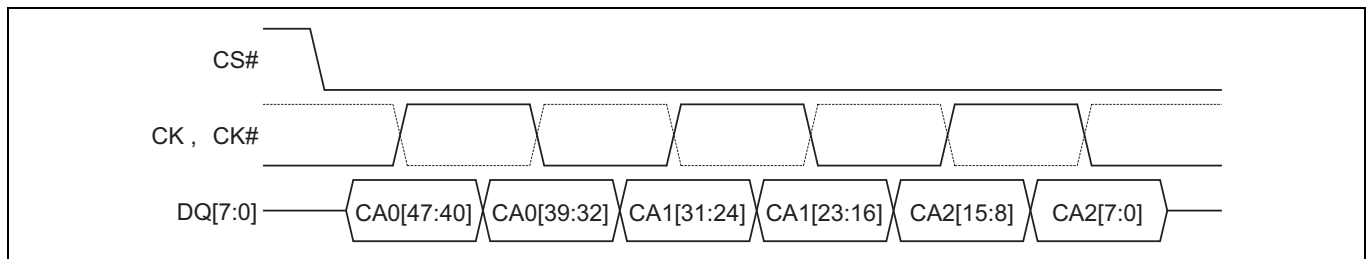

Figure 6 Command-address (CA) sequence^[3-7]
3. **Figure 6** shows the initial three clock cycles of all transactions on the HYPERBUS™ extended-IO.